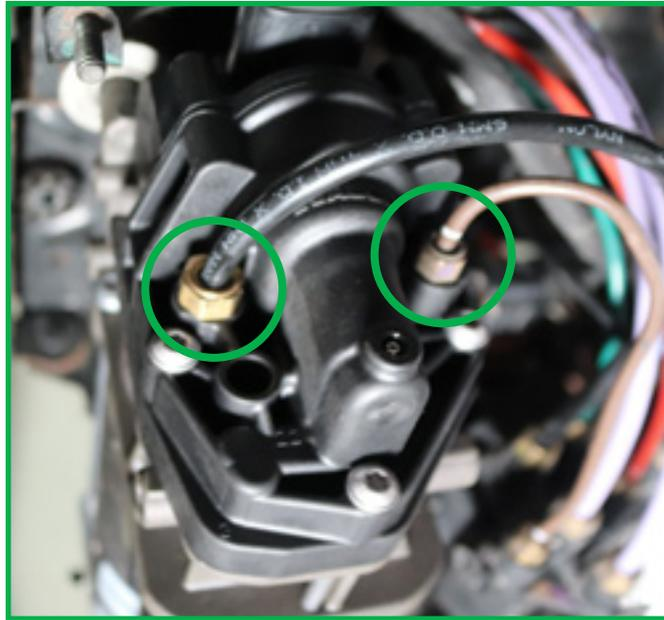

FIGURE 13
3. Install the two (2) air lines to the compressor (Figure 13). Remove the shipping pins and ensure that the air line is secured as demonstrated in Figure 12.